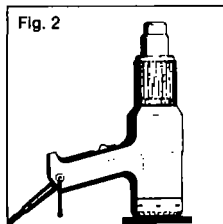

Fig. 2
When using it as a stand up tool (Fig. 2), slide the support stirrup (8) into the stop and position the gun standing on its air intake grid (7) and support (8) like a Bunsen burner. (Please make sure that the surface is clean and free of dust. The motor could be da-